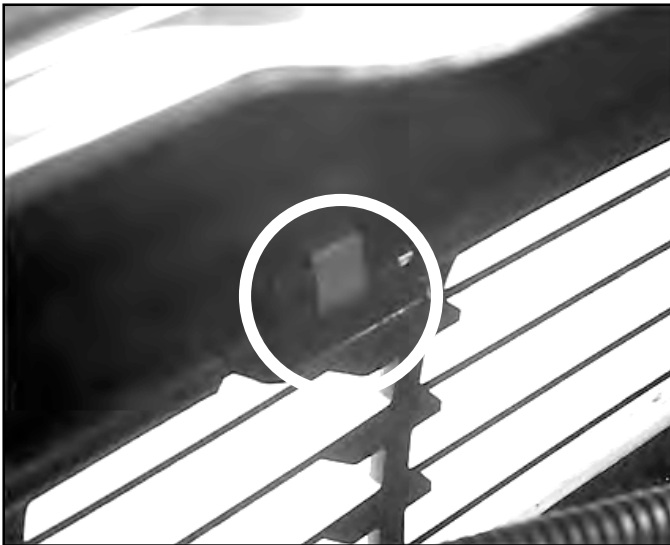

Figure 3. Use your fingers to remove the yellow clip holding the top of each stock grille.
1.3) Remove the yellow clips. The stock grilles are composed of two pieces: one on the driver’s side and one on the passenger’s. There are two yellow clips located at the tops of each stock grille **Fig. 3**. These are easy to pull out using just your fingers.